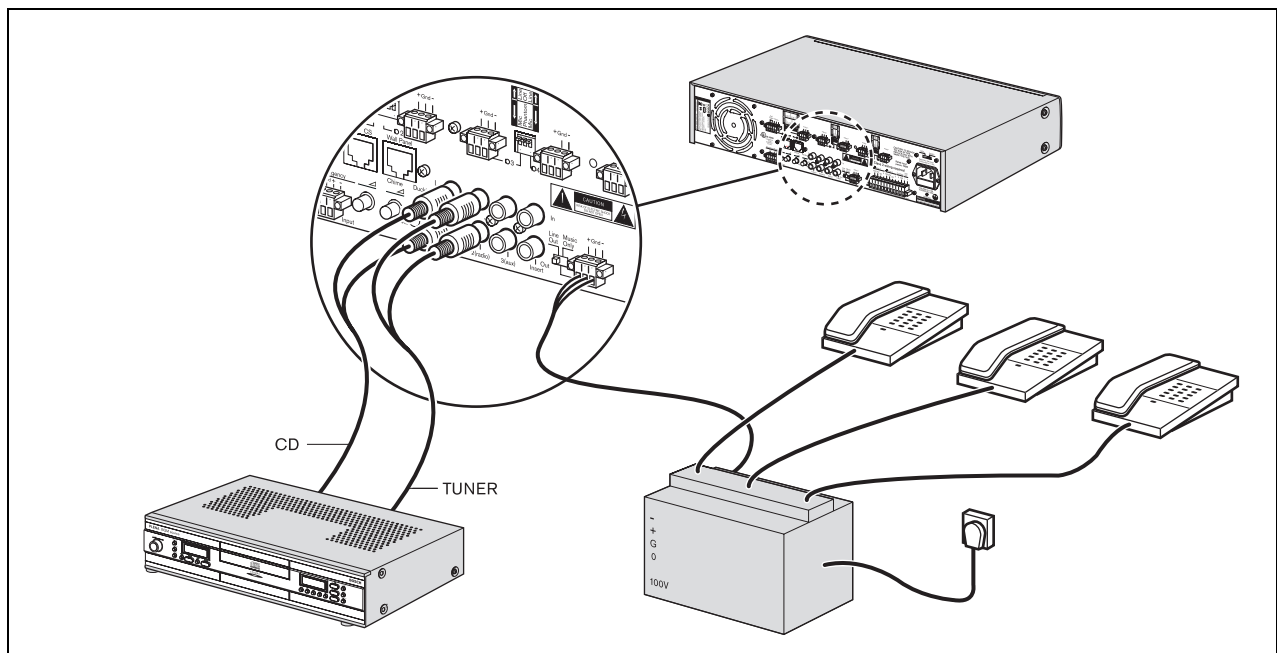

figure 4.7: Connecting music source inputs
Use the music master output connector (23) to provide a dedicated music out source for another device. For example, the music master output can be connected to a telephone coupler, so that callers can listen to music when they are put on hold (see figure 4.7).
Use the Pre-out, amp in insert (21) external sound processing equipment (e.g. an equalizer or Plena feedback suppressor) to be connected between the preamplifier and the power amplifier stages. See figure 4.7.